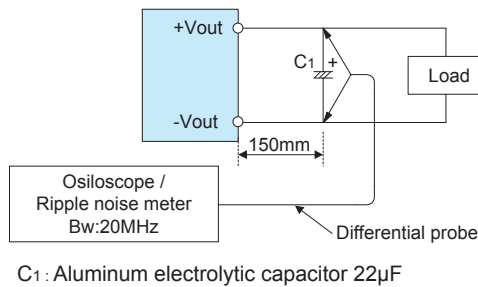

Fig. 1.3 Measuring method of Ripple and Ripple Noise
- Output ripple noise may be influenced by measurement environment, measuring method Fig. 1.3 is recommended.
- Output ripple and ripple noise is the value measured by the method shown in Fig. 1.3.